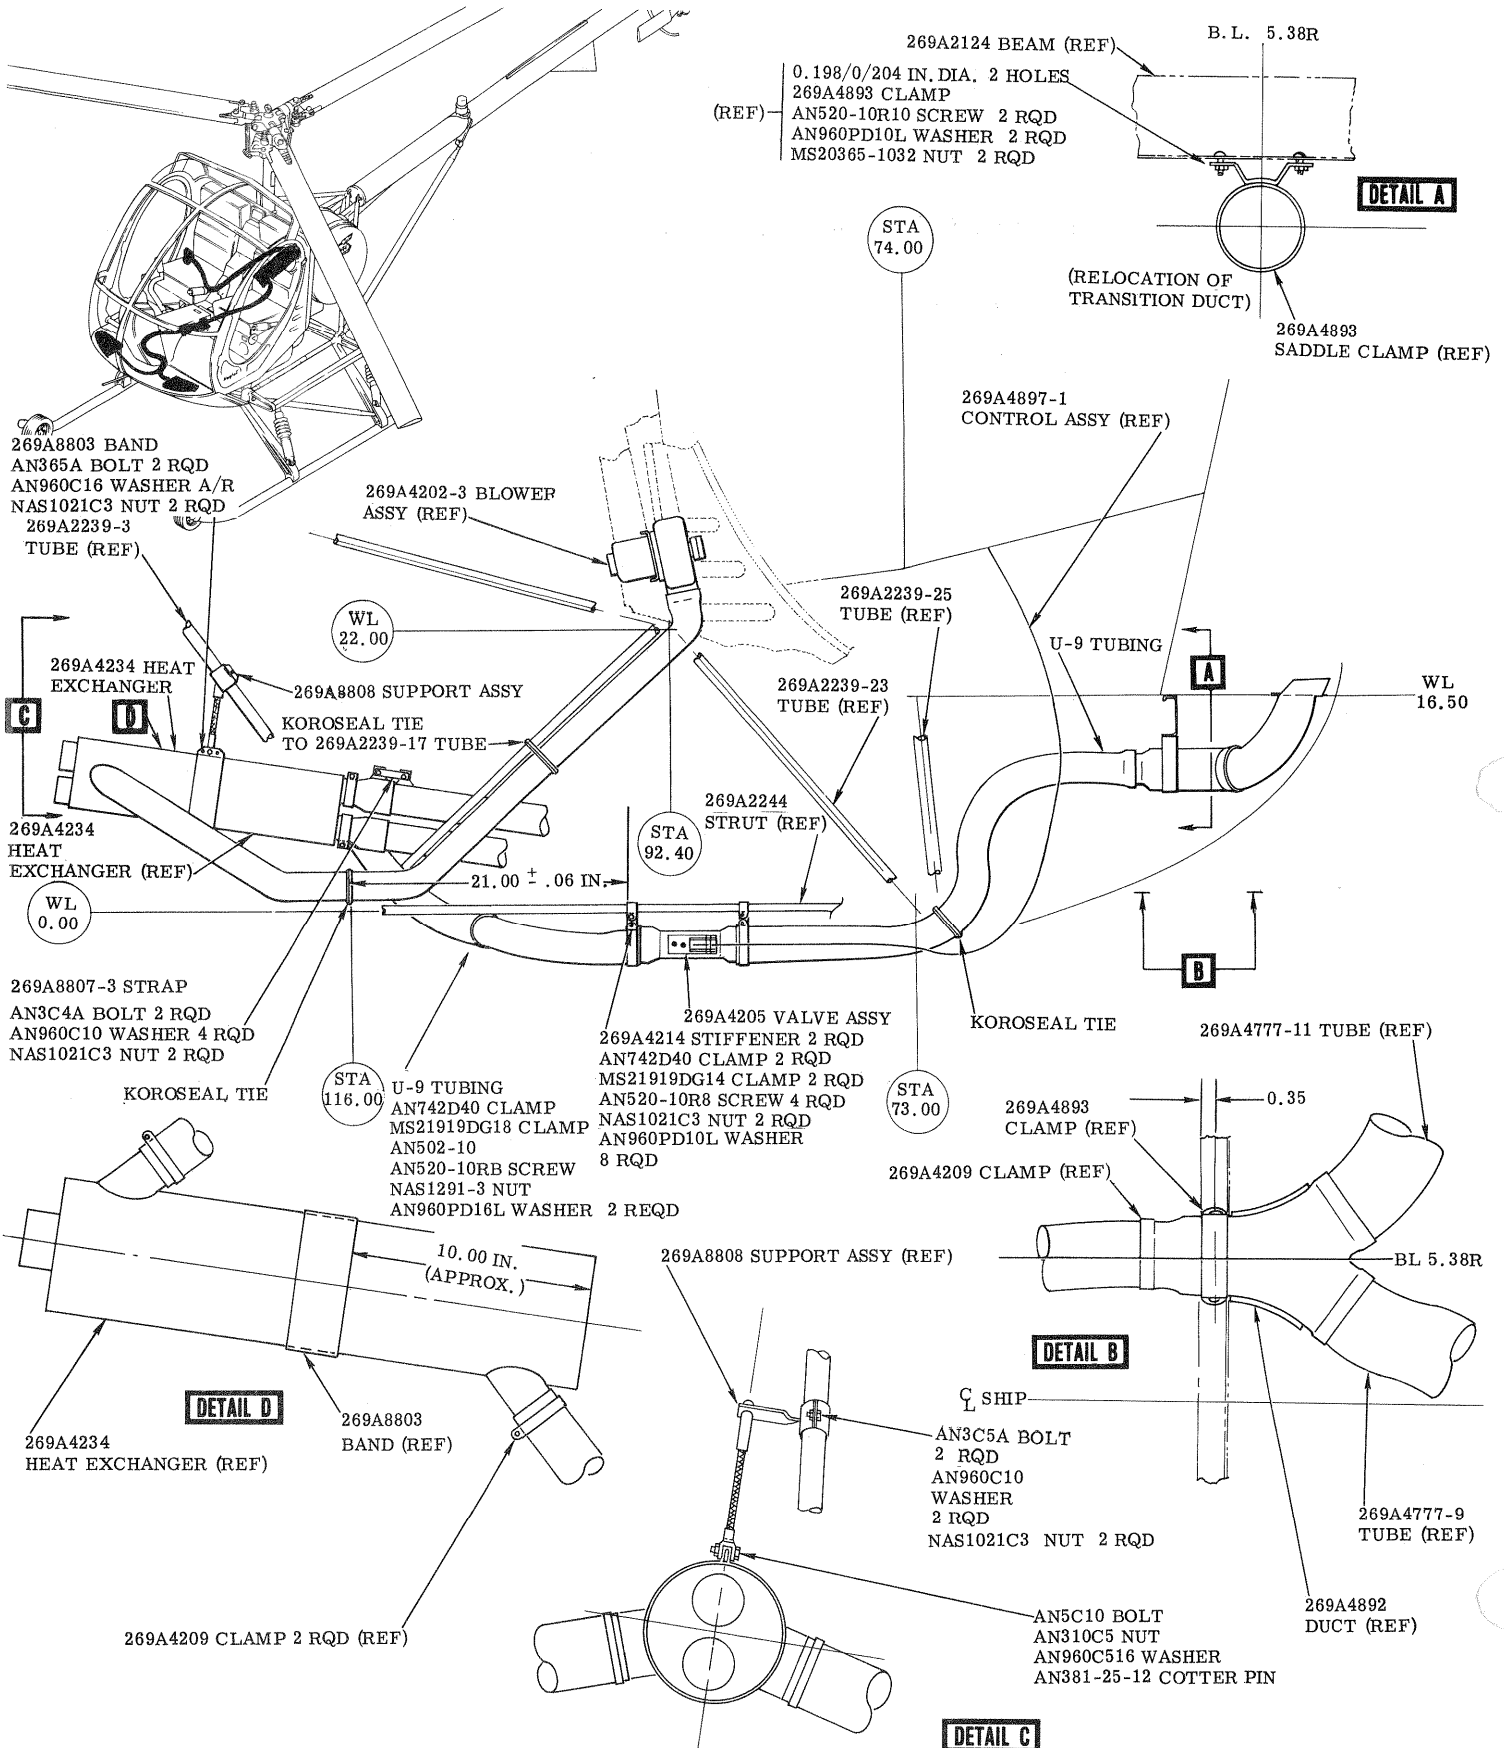

FIGURE 1. INSTALLATION - EXHAUST HEATER MODIFICATION KIT (M10065)
- a. Install 269A8803 band on heat exchanger with hardware as shown. (See figure 1)